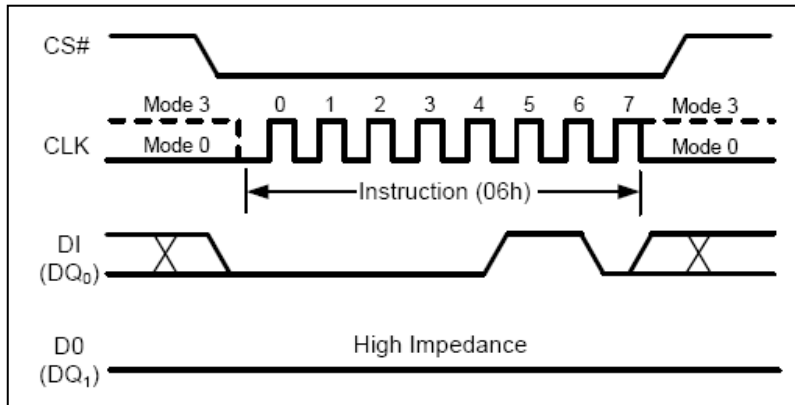

Figure 5 Write enable instruction
Instructions vary in length from a single byte to several bytes and may be followed by address bytes, data bytes, dummy bytes (don't care), and in some cases, a combination. Instructions are completed with the rising edge of edge CS#. Clock relative timing diagrams for each instruction are included in Figure 5 through Figure 29. All read instructions can be completed after any clocked bit. However, all instructions that Write, Program or Erase must complete on a byte boundary (CS# driven high after a full 8-bits have been clocked) otherwise the instruction will be ignored. This feature further protects the device from inadvertent writes. Additionally, while the memory is being programmed or erased, or when the Status Register is being written, all instructions except for Read Status Register will be ignored until the program or erase cycle has completed.
The Write Enable (WREN) instruction (Figure 5) sets the Write Enable Latch (WEL) bit in the Status Register to a 1. The WEL bit must be set prior to every Page Program, Sector Erase, Block Erase, Chip Erase, Write Status Register instruction. The Write Enable (WREN) instruction is entered by driving CS# low, shifting the instruction code “06h” into the Data Input (DI) pin on the rising edge of CLK, and then driving CS# high.